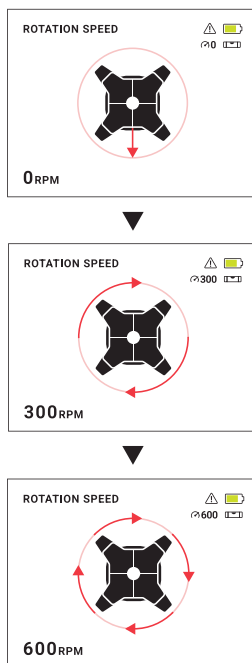

Fig.9
- The LCD screen will display the RPM when setting the speed (Fig.9). Once set, the following icon will be displayed on the LCD screen of the laser level and remote control with the current RPM: **600**